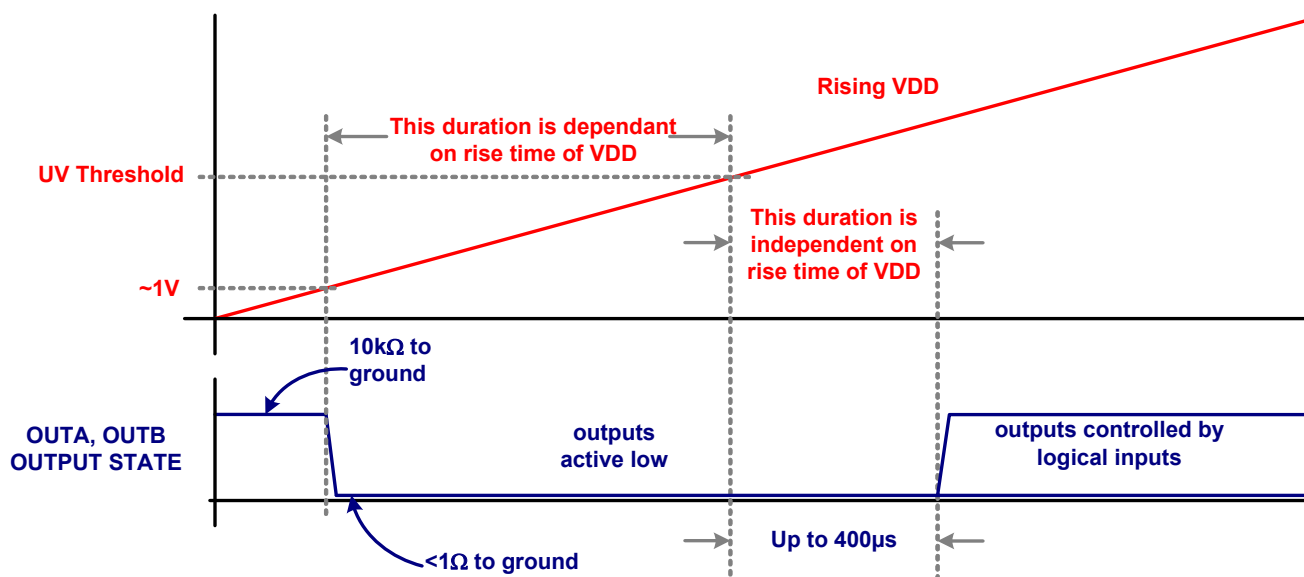

FIGURE 9. START-UP OUTPUT CHARACTERISTIC
- A 400 μs delay further inhibits the release of the output state when the UV positive going threshold is crossed. See Figure 9.
The start-up sequence for input threshold options A, B, and C is designed to prevent unexpected glitches when V_{DD} is being turned on or turned off. When $V_{DD} < \sim 1V$, an internal $10k\Omega$ resistor connected between the output and ground, help to keep the gate voltage close to ground. When $\sim 1V < V_{DD} < UV$, both outputs are driven low while ignoring the logic inputs. This low state has the same current sinking capacity as during normal operation. This insures that the driven FETs are held off even if there is a switching voltage on the drains that can inject charge into the gates via the Miller capacitance. When $V_{DD} > UVLO$, and after a $400\mu s$ delay, the outputs now respond to the logic inputs. See Figure 9 for complete details.